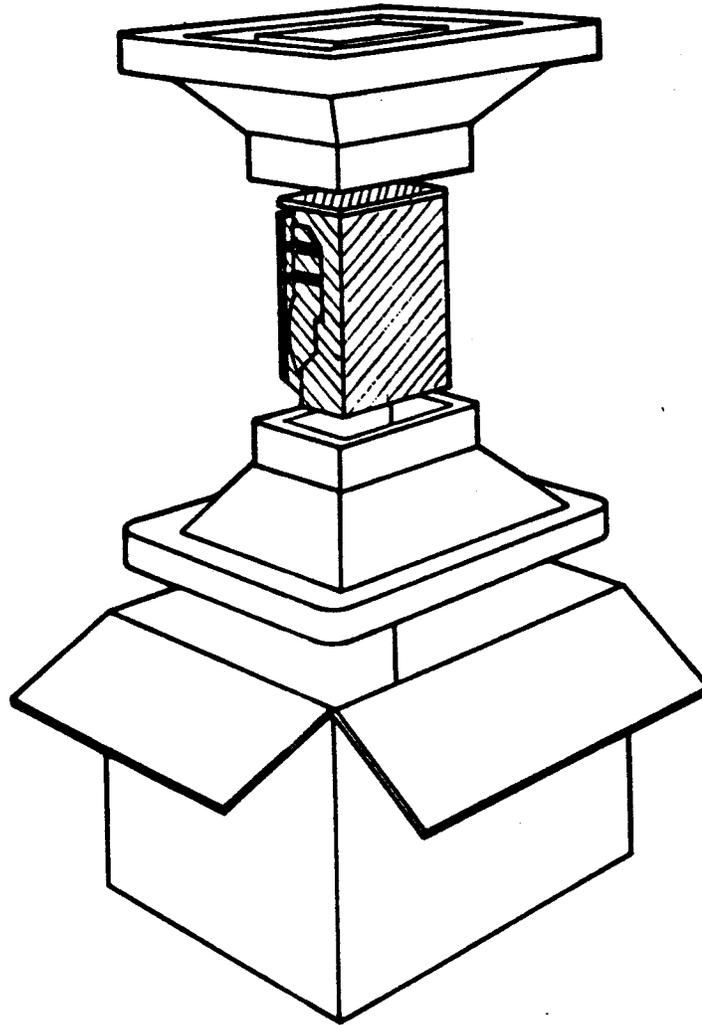

Figure 4-14: RD52 Shipping Container
5. Pack the removed drive in its special shipping case (Figure 4-14).